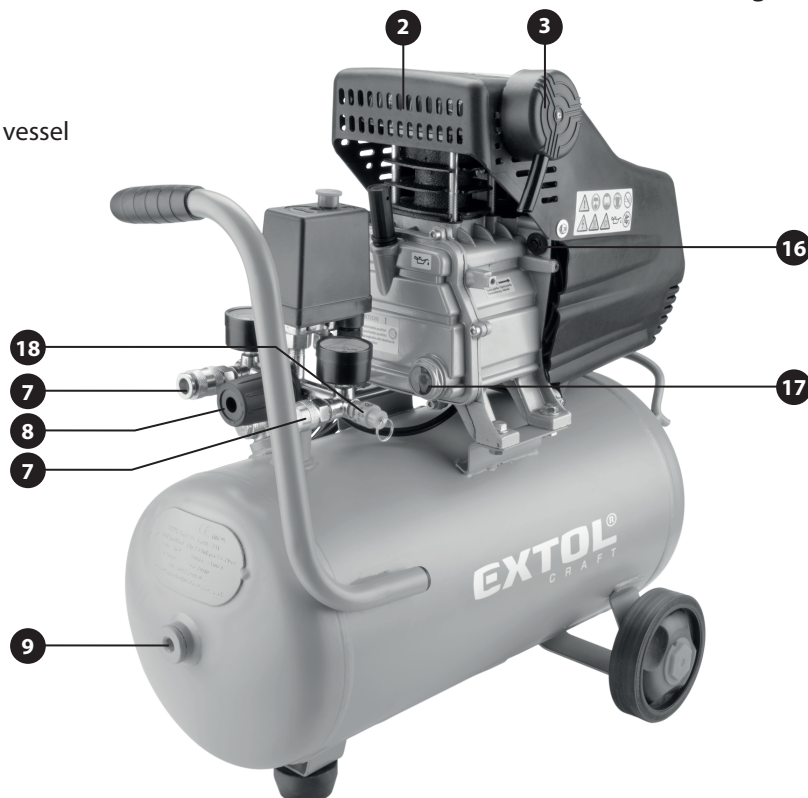

Fig. 1B
Pull on the ring of the overpressure valve (fig. 1B, position 1b)/fig. 8 and check that the valve pin moves and closes automatically.
- The compressor is equipped with a thermal protection mechanism that is activated when a critical temperature is reached, e.g. when the compressor is operated in hot weather. If the compressor shuts off, and the set pressure has not been reached, push the power switch button down to the „OFF“ position and allow the compressor to cool down. In the event of hot weather, it is appropriate to move the compressor to a cooler environment because its cooling will be faster. Once the compressor has cooled down, first press the button to deactivate the protection mechanism, see fig. 1B, position 16 and then set the power switch to the „ON“ position. In the event that the thermal protection mechanism has not been activated, have the compressor repaired at an authorised service centre for the Extol® brand.